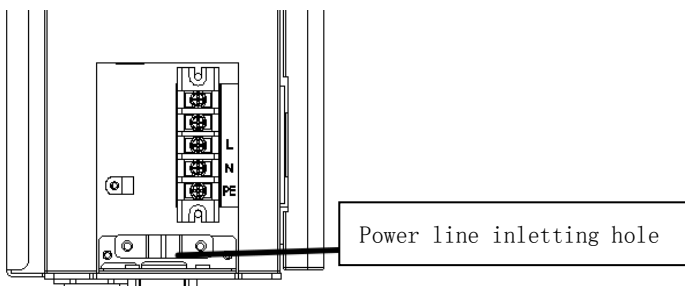

Figure 8.2 The input AC wiring line drawing of the charger
2、 7kW single phase three wire input AC power supply: users need to remove the baffle cover of the junction box on the side of the charger and connect the cables of recommended specifications in chart 7.2.3 (L, N, PE) in turn according to the connection mark of the charger inlet, as shown in Figure 8.2 below.